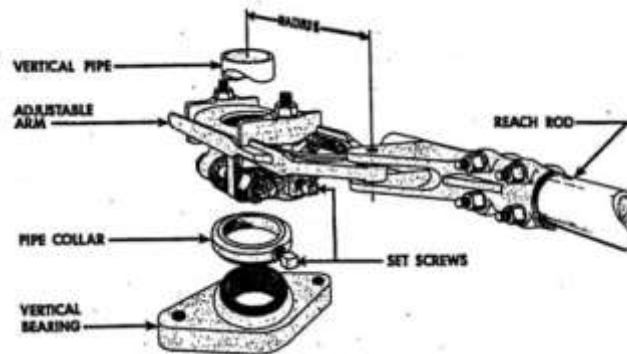

Figure 18: Adjustable Arm Assembly
- E – Pipe Collar (See Cautionary Note – Figure 18)